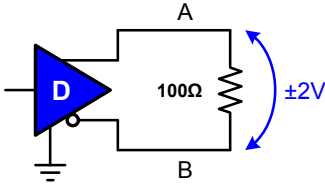

Figure 3. RS-422 Driver Output Voltage
- Figure 3. RS-422 Driver Output Voltage 2
Although an RS-422 driver must be able to drive the common-mode load of 10 receivers, paralleled by a differential termination resistor, the standard specifies only a driver’s output drive capability in the form of a minimum V_{OD} of ±2V across a differential load of 100Ω (Figure 3). The need for overcoming ground potential differences (GPDs) between driver and receivers is not explicitly mentioned.